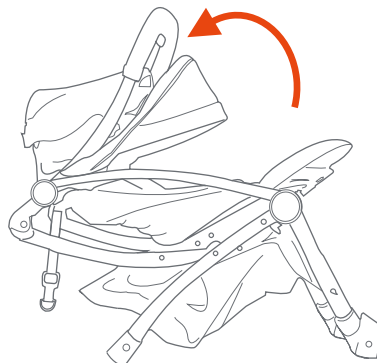

Fig. 1b
• Unfold stroller frame by pulling backward on the stroller handle (Fig. 1b). The stroller frame should click into position.